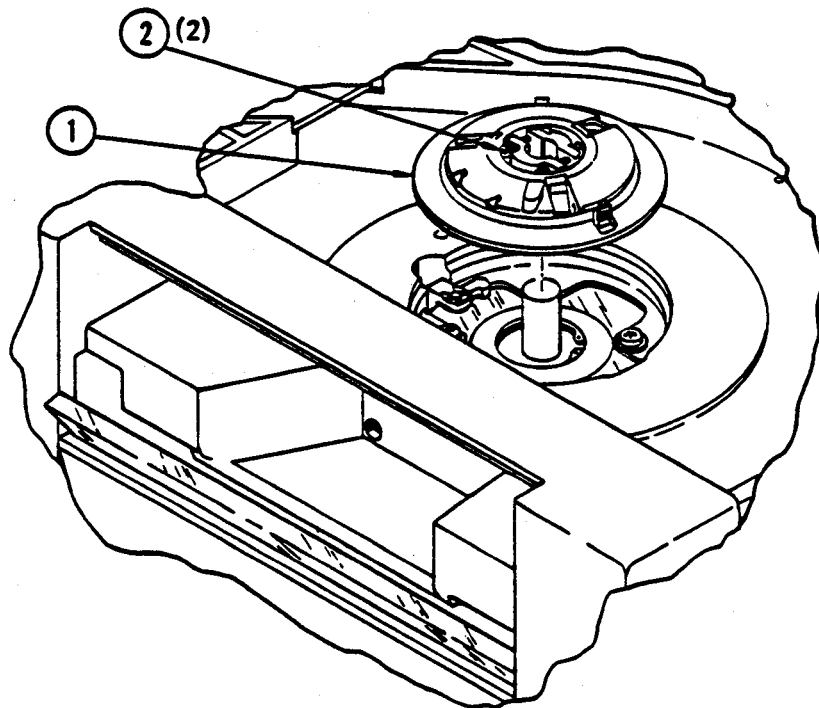
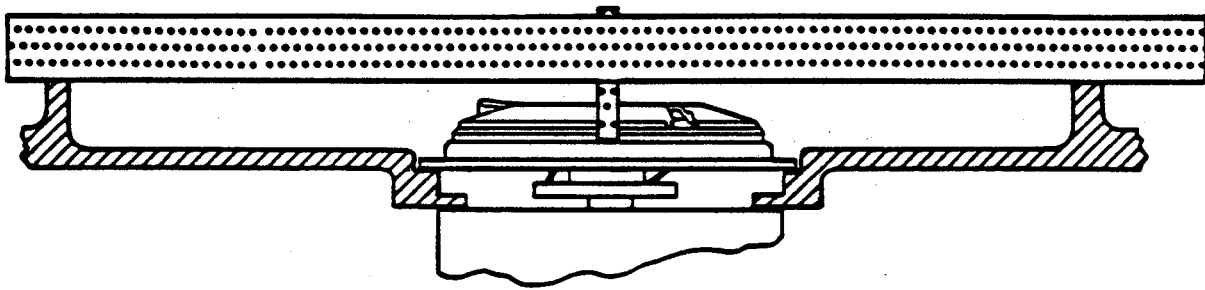

Figure 4-8. Supply Hub Assembly
Figure 4-9. Supply Hub Adjustment
4-23. Removal, Replacement and Adjustment (Figure 4-8). Place transport in operator maintenance access position in accordance with paragraph 4-2 and proceed as follows:
- a. Rotate hub assembly (1, Figure 4-8) so that socket-head screws face front panel door.
- b. Open front-panel door and loosen socket-head screws (2).
- d. Install replacement hub on shaft, and position hub height gauge, Cipher Part No. 760105-545, as shown in Figure 4-9 so that it contacts the raised machined surface of the top plate. Raise the supply hub until the reference surface contacts the hub-height tool.
- e. Ensuring that hub-height tool is in contact with both the top plate and reel hub, tighten socket-head screws (2).